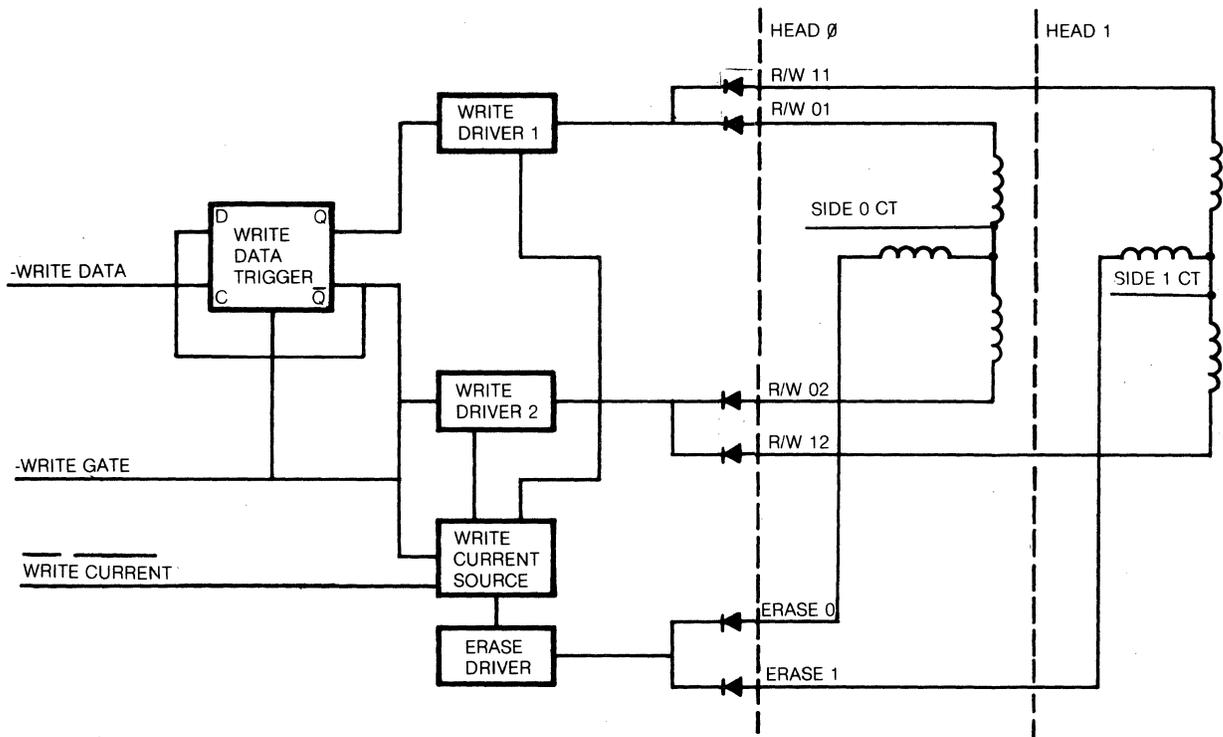

FIGURE 31. WRITE CIRCUIT FUNCTIONAL DIAGRAM
1.6.0 WRITE CIRCUIT OPERATION (FIGURE 31)